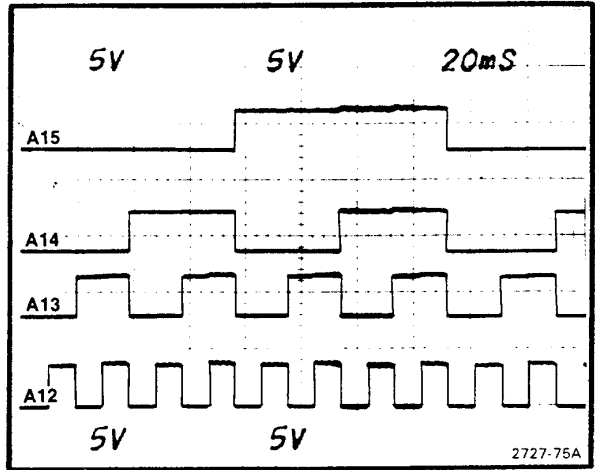
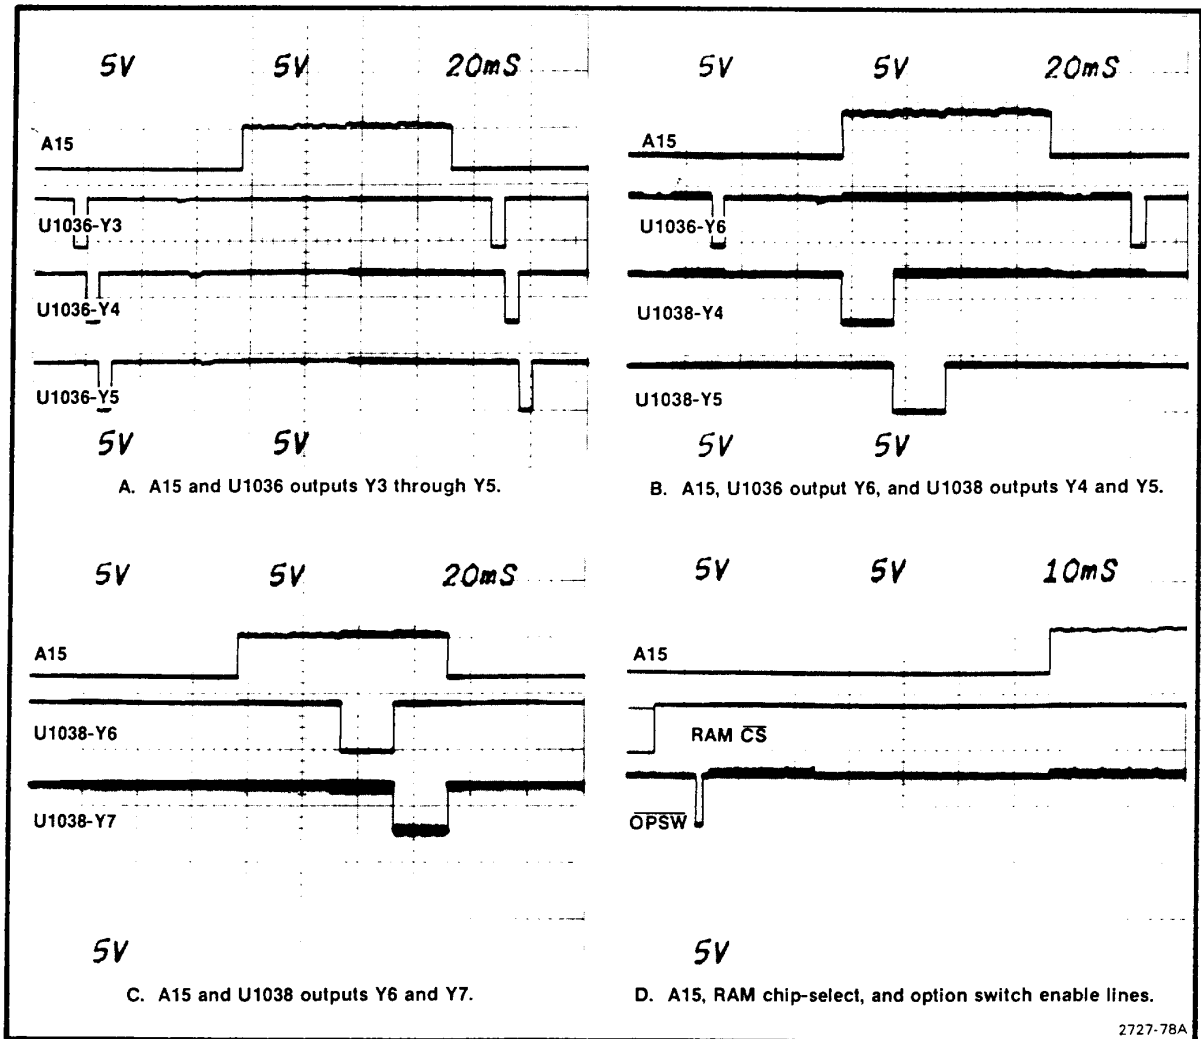

Fig. 4-25. A15 through A12 in microcomputer test mode.
Fig. 4-28. A15 and Memory board address decoder outputs.
**Microcomputer Bus.** As the microcomputer cycles through its address space, it toggles the address lines. The MSB, A15, has a period of about 1540 ms; the period of A14 through A0 is divided by two from the line above down to the LSB, A0, with a period of about 4.7  $\mu$ s. The four high-order lines, A15 through A12, are shown in Fig. 4-25. Ignore the narrow pulses that may be evident during the low portion of each cycle.
**Memory Address Decoders.** Address decoders U1036 and U1038 on the Memory board set their outputs low to access blocks of ROM addresses. These outputs are shown in relation to A15 in Fig. 4-25. The RAM (U2035 and U2032) chip-select lines and option switch register (U1033) enable line are also decoded on the Memory board as shown in part d of Fig. 4-28. The narrow pulses which may be evident during the time each output is asserted can be ignored for the reason noted above under Processor Address Decoders.